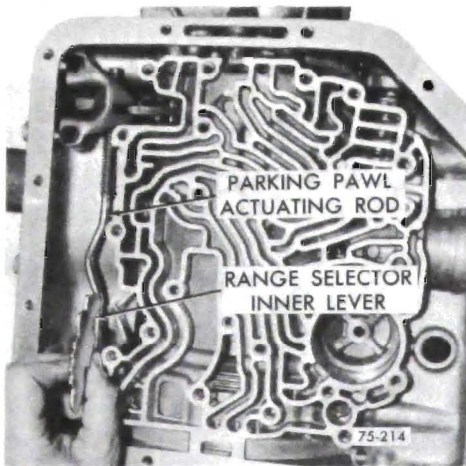

Figure 75-282
7. Install actuating rod under the park lock bracket and parking pawl. See Figure 75-282.